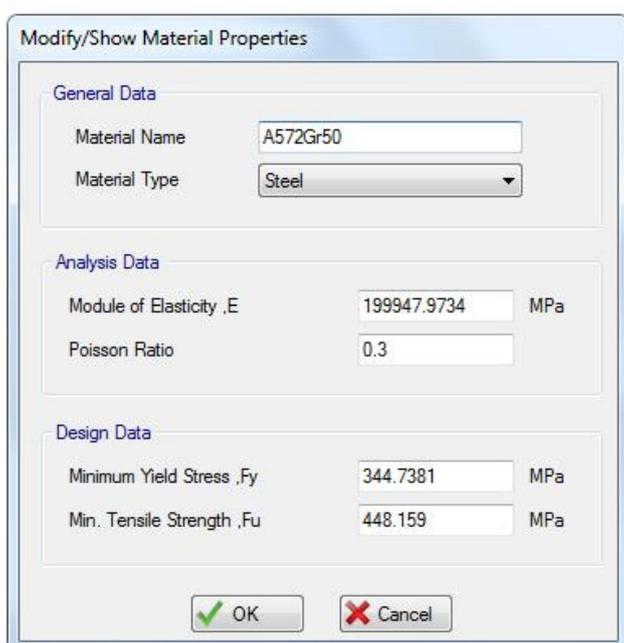

Figure 3-3, Modify/Show Steel Material Form
- **Steel**: is used to model the column, plate and stiffeners. The parameters used to model steel material consist of modulus of elasticity, Poisson ratio, yield stress and ultimate stress (Figure 3-3). The first two parameters are used in finite element modeling. Yield and ultimate stresses are the required parameters for designing.